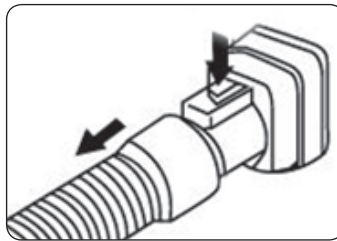

FIGURE 8.1
- Attach the hose to the side inlet opening on the dust compartment (Figure 8.1)